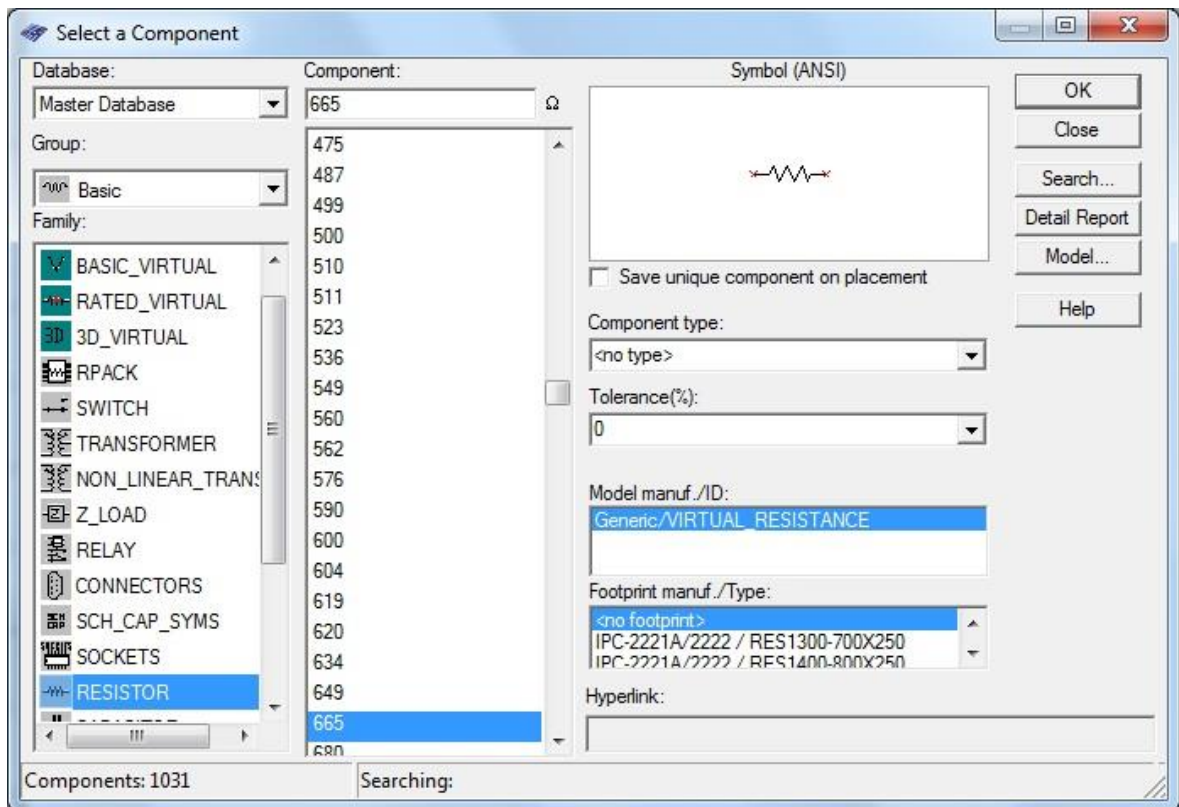

Figure 4.4: Selecting a Resistor
- c. Once 'Place Basic' is clicked, a window, as shown in figure 4.4, will appear. Select the  $1k\Omega$  resistor from the menu. Make sure the 'Resistors' from the first column is selected, and then select the  $1k\Omega$ . (In figure 4.4 both are highlighted)
- f. Note: To change the resistor values, right click the mouse while the resistor is highlighted, and then choose the properties as shown in figure 4.7. The same window shown in figure 4.4 will appear.